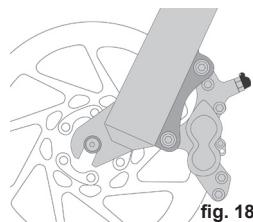

fig. 18
1. If your e-bike has rim brakes, disengage the brake's quick-release mechanism to increase the clearance between the tire and the brake pads. **Refer to Page 57, Section 11: "Tech", subsection C: "Brakes", figs. 18 through 22.**
1. If you have a multi-speed e-bike with a derailleur gear system, shift the rear derailleur to high gear (the smallest, outermost rear sprocket). If you have an internal gear rear hub, do not attempt to remove the rear wheel. Consult your authorized retailer or the hub manufacturer's instructions for additional information. If you have a single-speed e-bike with rim or disk brake, go to step (4) below.
2. If your e-bike has rim brakes, disengage the brake's quick-release mechanism to increase the clearance between the wheel rim and the brake pads. **Refer to Page 57, Section 11: "Tech", subsection C: "Brakes", figs. 18 through 22.**
3. Some bicycle brakes, such as disc brakes (fig. 18) and linear-pull brakes (fig. 19), are extremely powerful. Take extra care in becoming familiar with these brakes and exercise particular care when using them.